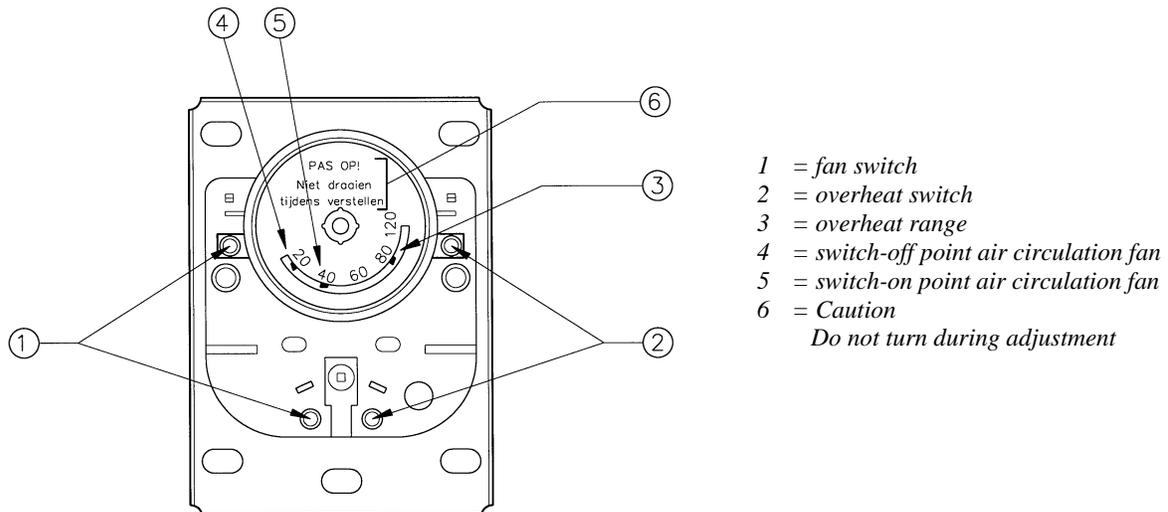

Fig. 3 Combined Fan and Overheat Limit Switch
- 5.5 Check that the fan and limit switch settings are correct (remove the top fixing screw, if fitted, and pull off the front cover for access to the indicator pointers as shown in Fig.3).